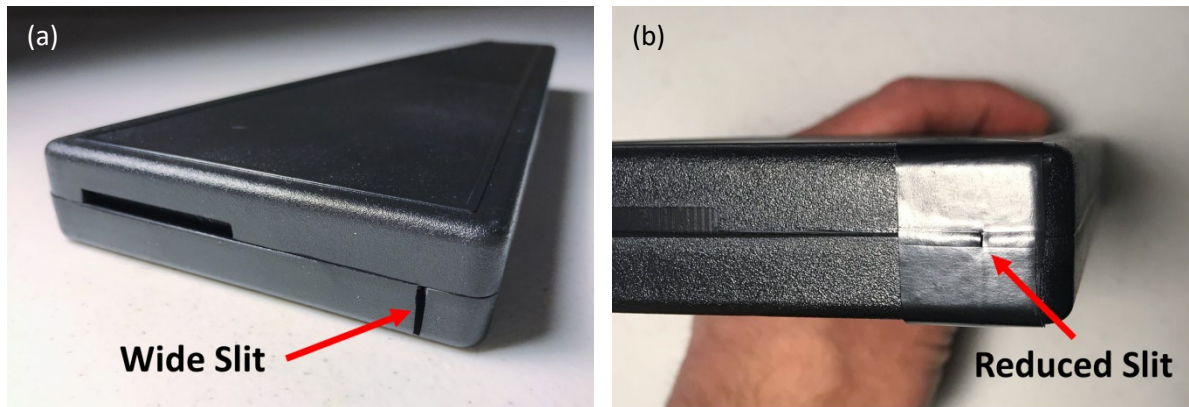

Fig. 5: Handheld spectroscope – (a) Before the application of electrical tape. (b) After the slit has been narrowed and shortened with electrical tape.
3. Use electrical tape to narrow the slit of the spectroscope down to 0.5 mm of width (or less) to increase its wavelength resolution. Also, shorten the length of the slit to about 2 mm. See Fig. 5.